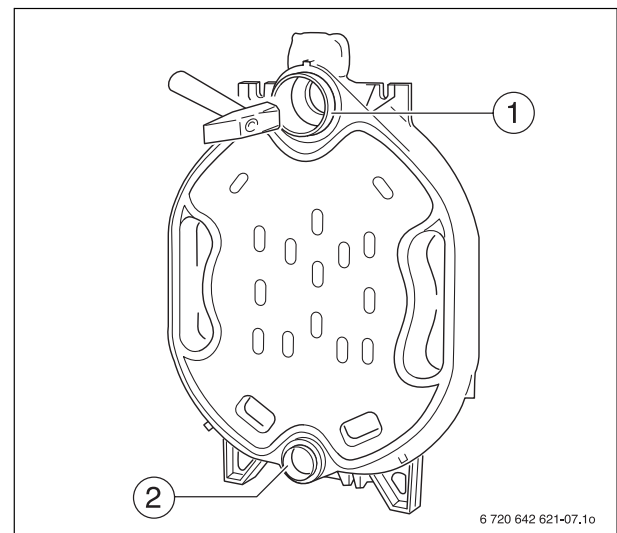

Fig. 11 Driving nipples home
- ▶ Insert the nipple straight into the upper (Sz. 2,119/50) and lower (Sz. 0, 57/50) hub of the rear section and hammer home securely with alternate heavy blows. The upper nipple (Fig. 11, [1]) and the lower nipple (Fig. 11, [2]) should protrude approx. 28 mm out of the corresponding hub once they have been driven in.